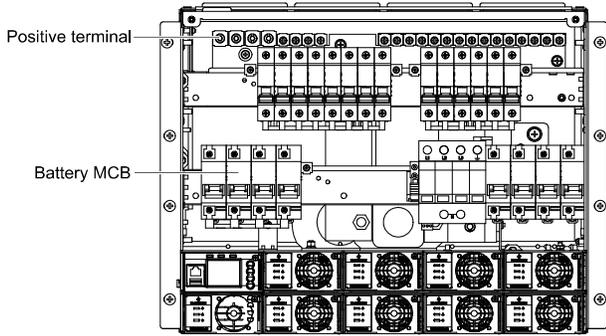

Figure 2-8 Illustration of the battery connection terminal
2. Connect copper lugs to the other end of the battery cables. Bind the connecting parts with insulating tape, and put them beside the battery. Connect the cables to the battery when the DC distribution unit is to be tested. As shown in Figure 2-8.